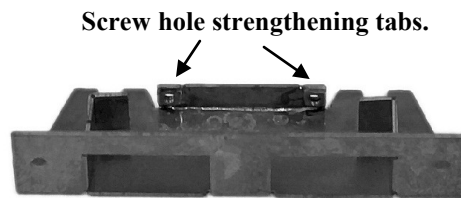

Fig 4
Fold up the two under frames (item 3) as shown in fig 4.